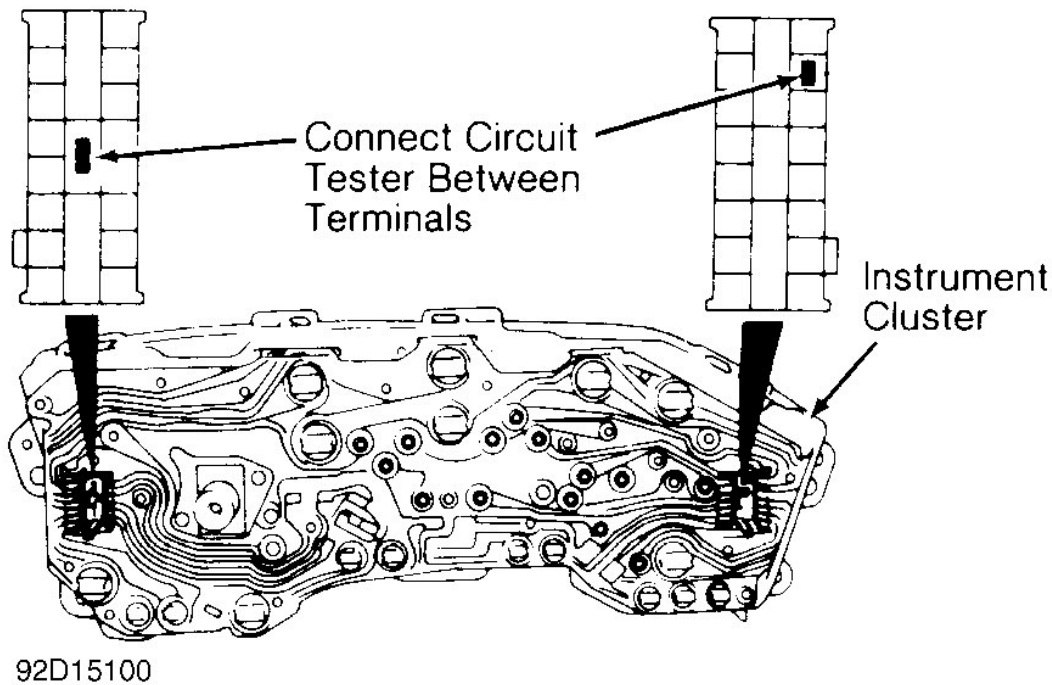

Fig. 22: Checking Vehicle Speed Sensor (Diamante, Eclipse & Galant)
1. Connect circuit tester between terminals on rear of instrument cluster. See Fig. 22.